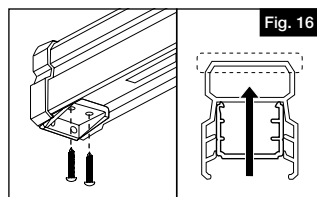

Fig. 16
- b. Using the holes in the bracket as a guide, pre-drill two (2) $\frac{1}{8}$ " holes from under the bottom of the rail up through the top rail. Drive two (2) $1\frac{5}{8}$ " screws up through the hole locking the bracket, panel and top rail together, being careful not to drill through the top of the top rail (Fig. 16).